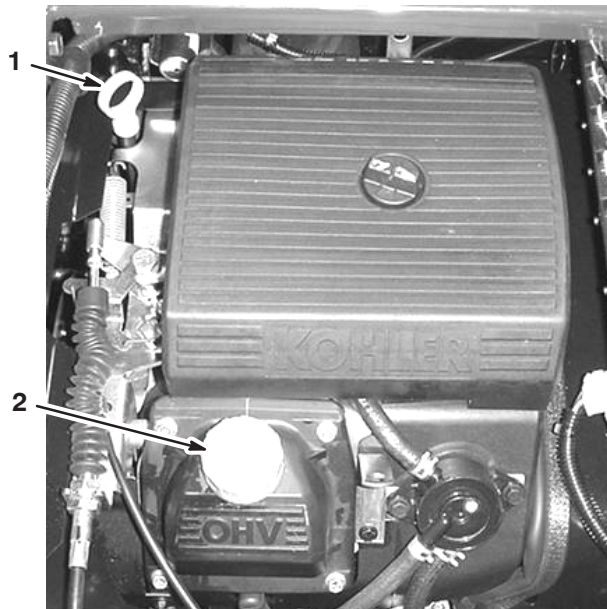

Figure 5
2. Remove the dipstick and wipe it with a clean rag (Fig. 5). Insert the dipstick into the tube and make sure it is seated fully. Remove the dipstick and check the oil level.
3. If the oil level is low, remove the filler cap from the valve cover (Fig. 5) and pour oil into the opening until the oil level is up to the Full mark on the dipstick; refer to Servicing Engine Oil, page 32, for the proper oil type and viscosity. Add the oil slowly and check the level often during this process. **Do not overfill.**